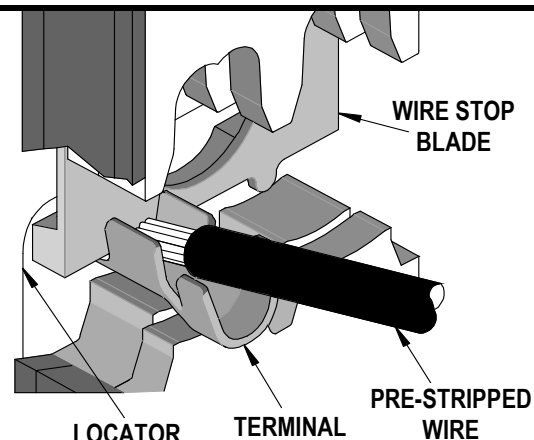
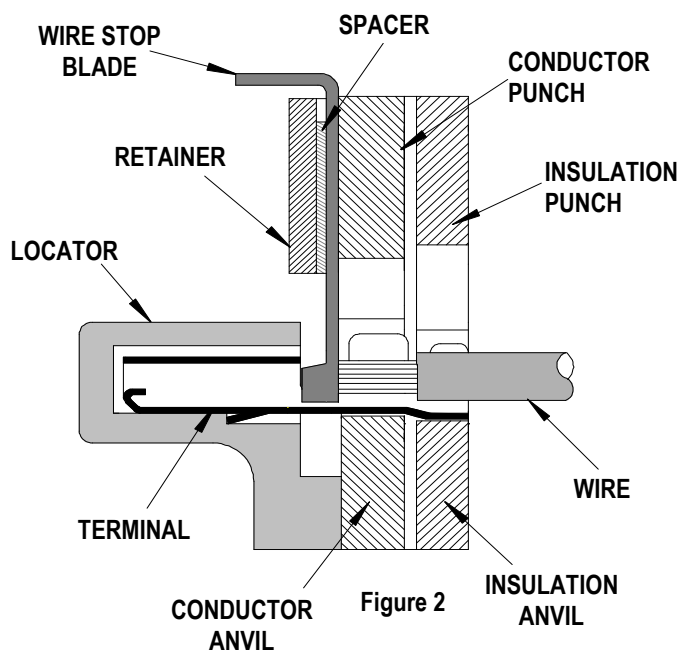

Figure 1
Figure 2
4. Slide the pre-stripped wire into the terminal; make sure to aim the wire end towards the tip point on the wire stop blade. See Figure 1. Align the wire so that it is parallel to, and sitting into the terminal. Maintain a light and constant pressure on the wire that is seated in the terminal at all times. (Do not let go of the wire.) Be sure to hold the wire and terminal in place until the terminal is fully crimped. See Figure 2.